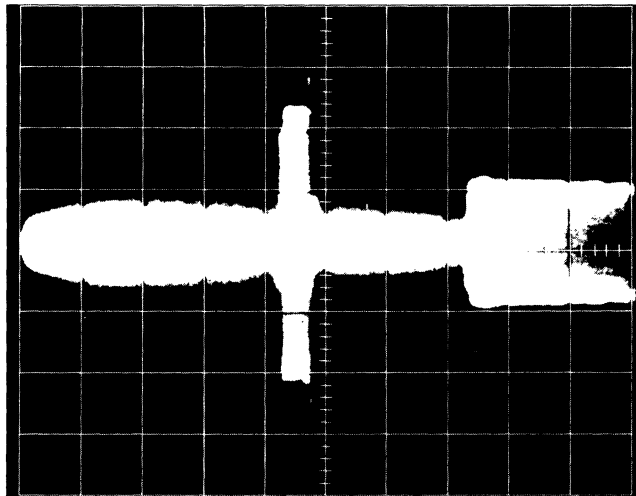

Figure 5-8. Index to Burst Waveform
- h. The oscilloscope presentation should look like the Index to Burst Waveform (see fig. 5-8).
- j. Re-tighten the index detector retaining screw using the torque driver set to 8 inch pounds while observing the pattern on the scope (see fig. 5-8).